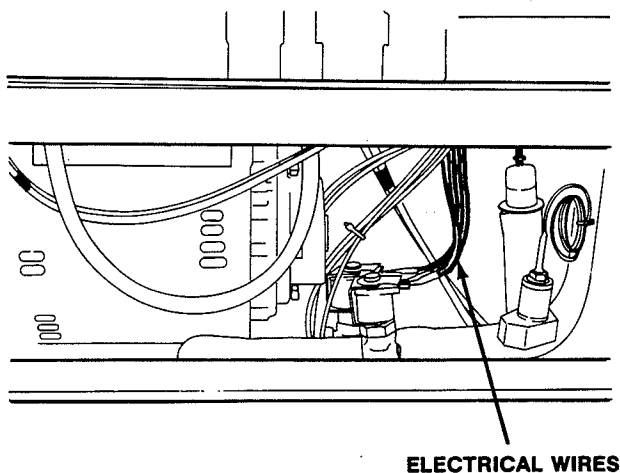

Figure 45. Solenoid Replacement
2. Identify (mark) and disconnect the two electrical wires. (Fig. 45).